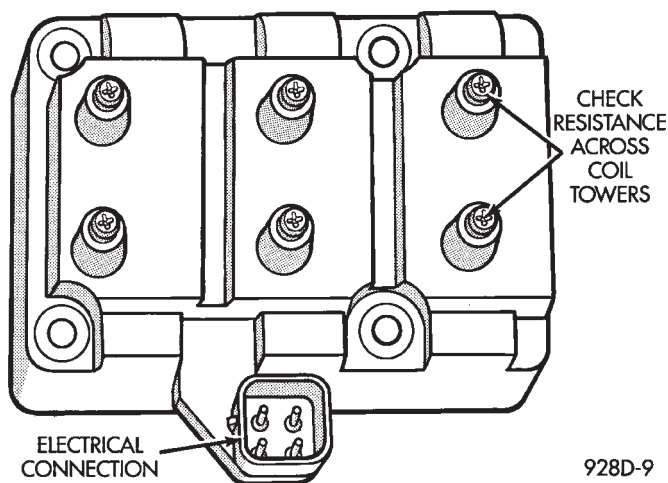

Fig. 3 Checking Ignition Coil Secondary Resistance
(4) Remove ignition cables from the secondary towers of the coil. Measure the secondary resistance of the coil between the towers of each individual coil (Fig. 3). Secondary resistance should be 7,000 to 15,800 ohms. Replace the coil if resistance is not within tolerance.